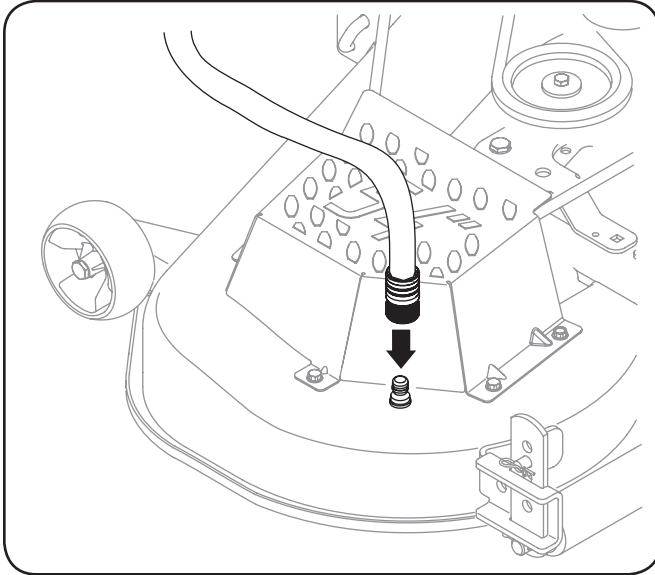

Figure 6-2
- Attach the hose coupler to the water port on your deck's surface. See Fig. 6-2.